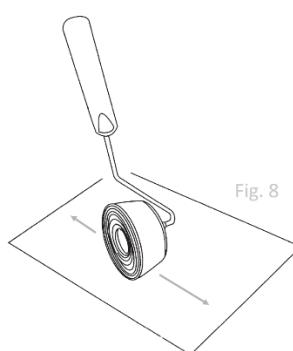

Fig. 8
6. Charge the Edger Head by rolling it on an old newspaper for 2 minutes or until the fully covered with paint (Fig.8).